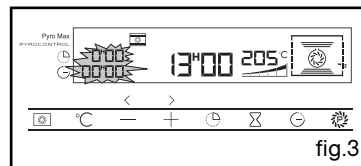

fig.3
– Confirm with the button **"Start"** (fig.3).
- the cooking time indicator and 00:00 both flash (fig.3),
- the cooking time indicator and 0:00 both flash (fig.3),